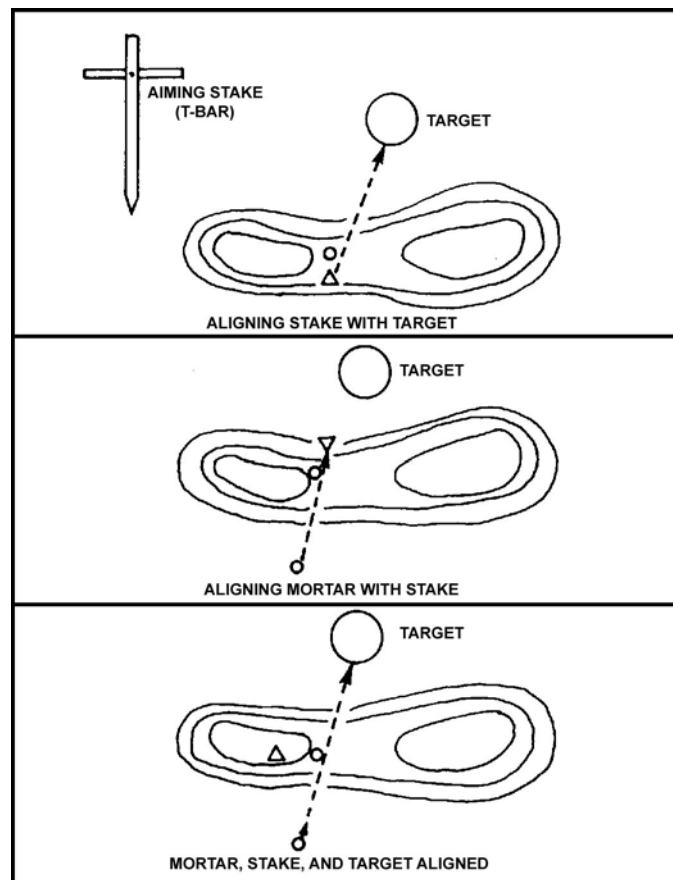

Figure 1. Direct-alignment method.
- a. When using the direct-alignment method, the squad leader acts as the forward observer (FO) for the squad.
- b. To use the direct-alignment method, the squad leader must select a target within his area of responsibility and a position for the mortar that can be seen from his FO position (Figure 1).
- d. In aligning the mortar and the target, the squad leader can use an aiming post for the alignment point. However, the best and most accurate method is to use an aiming stake with a cross-arm (T-bar) on it (Figure 1).